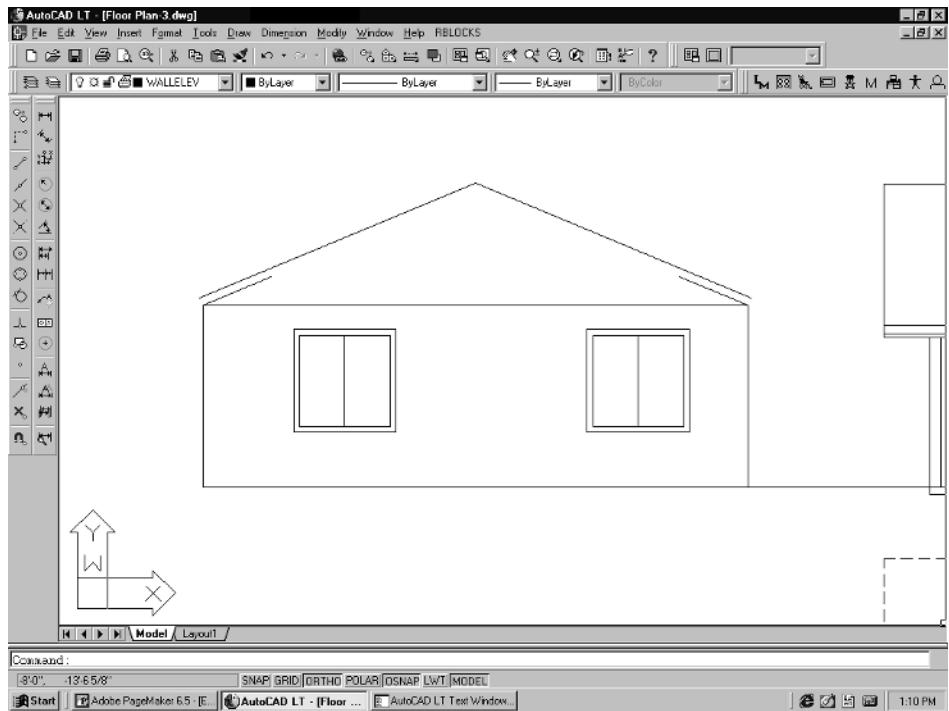

Figure 4-42
- Next, add the windows and roof lines. Mirror the left roof line over to the right side. Offset the roof lines up **4"** and fillet together. Erase the construction and header lines and offset the windows **3"** to form the window frames. Your drawing should be similar to Figure 4-42.